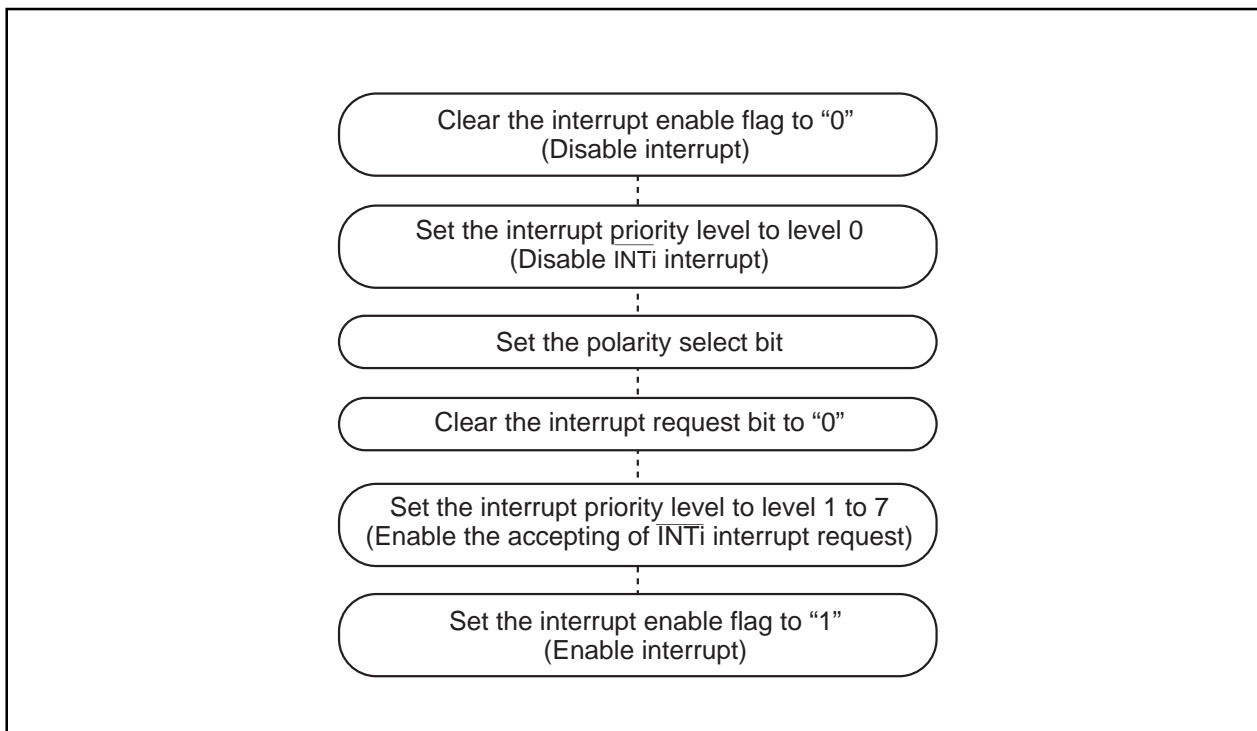

Figure 4.7.1. Switching condition of  $\overline{INT}$  interrupt request
- When the polarity of the  $\overline{INT_0}$  and  $\overline{INT_1}$  pins is changed, the interrupt request bit is sometimes set to "1". After changing the polarity, set the interrupt request bit to "0". Figure 4.7.1 shows the procedure for changing the  $\overline{INT}$  interrupt generate factor.